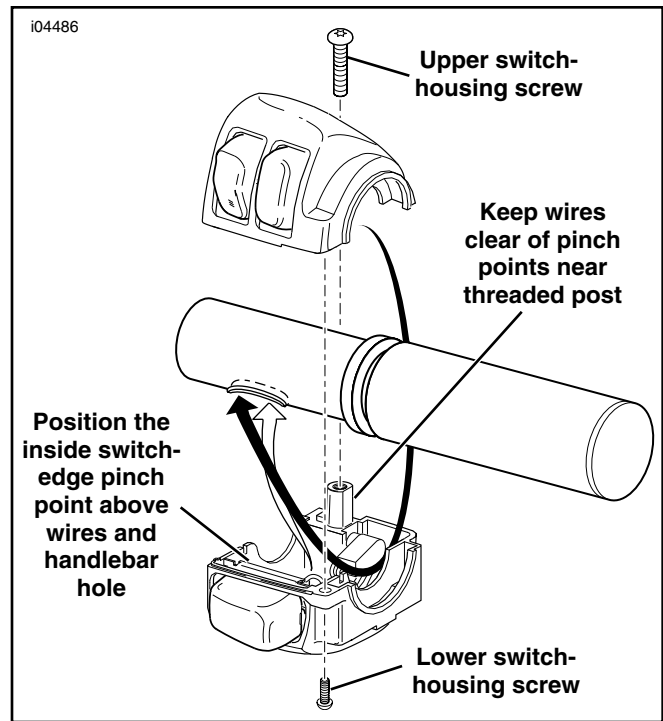

Figure 2. Switch-Housing Wire Routing (Right-Side Housing Shown)
4. See Figure 2. Route the wire bundle through the switch housing as shown. Gently feed the wire bundle into the right-side grommeted hole and toward the center of the new handlebar.
Avoid the pinch points shown in Figure 2. Pinch points in the switch housings can short-circuit or sever wires, which could cause loss of vehicle control resulting in death or serious injury.